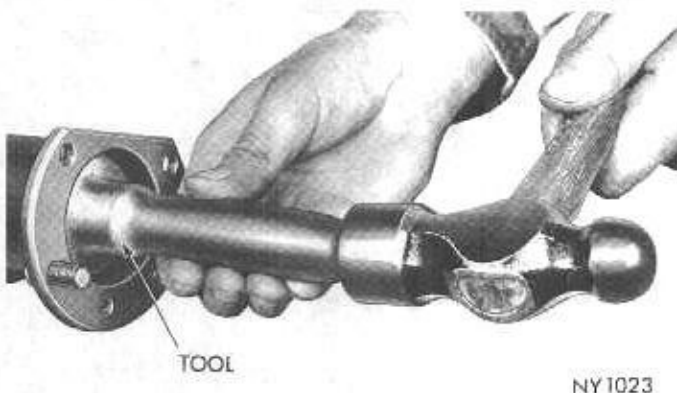

Fig. 7—Installing Axle Shaft Oil Seal
(2) Install new axle shaft oil seals in axle housing, using tool C-3734 (Fig. 7).
(3) Apply a light film of Multi-purpose Lubricant